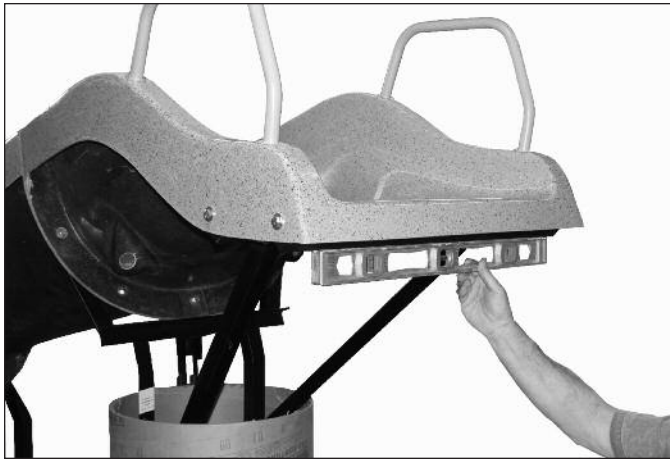

Fig. 19
- The entry section seating area is almost flat, however, for proper drainage it incorporates a slight downhill slope which transitions to a full 20°. To ensure correct placement of the entry section the entry frame support must be level to ensure correct orientation of the slide. **(Fig. 19 & 20)**